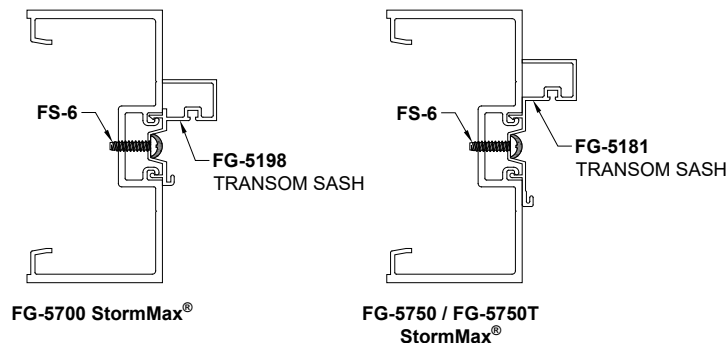

Figure 32: Attaching Transom Sash
- 11.2 Secure Transom Sash with **FS-6** fasteners at 12" intervals on center. Cap seal fasteners. Reference Figure 32.